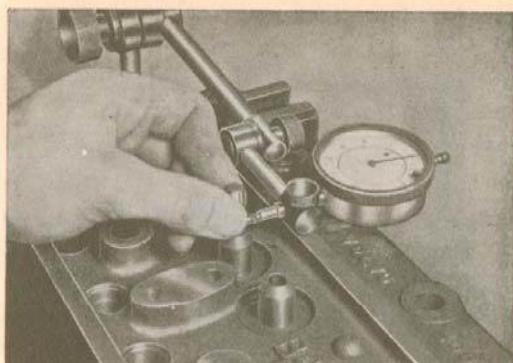

Fig. 1-32. Measuring clearance
2. Measure the clearance between the valve spindle and the valve guides as shown in Fig. 1-32. With a new valve this clearance should not exceed 0.15 mm (0.006"). Also check that the valves are not too worn. See under the headings "Valve system" and "Wear tolerances" in the specifications.